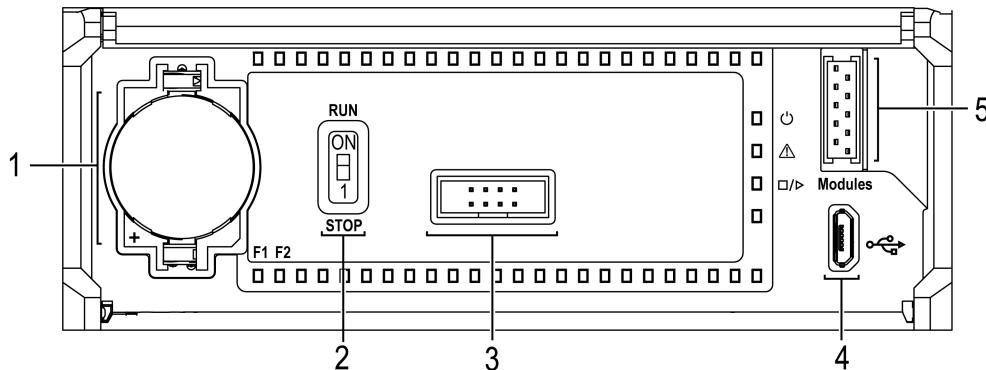

Fig. 6.3 Front cover open
To activate the I/O mode, turn the RUN/STOP switch (Fig. 6.3, Pos. 2) to **STOP** position.
A charged backup battery (Fig. 6.3, Pos. 1) ensures uninterruptable operation of the built-in RTC for 5 years. In the case of operation at a temperature near the limits of the operating range (Tab. 3.6), the operating time of the battery is reduced. For battery replacement see sect. 8.2.
1. Connect the PR102 programming connector (Fig. 6.3, Pos. 4) to PC over a USB-to-microUSB connection cable.